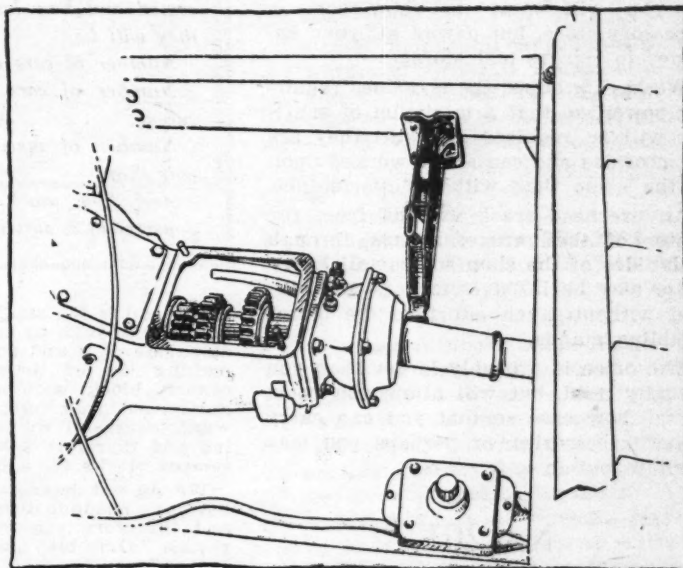

Fig. 13—Using jack to line up rear engine holding-down bolt
43. Insert right rear engine holding-down bolt. It may be necessary to use jack between frame sill and universal joint housing in order to insert right rear engine holding-down bolt. See Fig. 13.